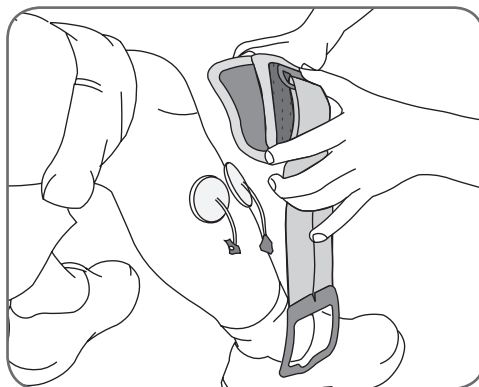

Figure 8-14: Positioning the L300 FS Cuff locator below the patella.
5. Position the locator of the L300 FS Cuff below the patella, over the tibial plateau. See Figure 8-14.